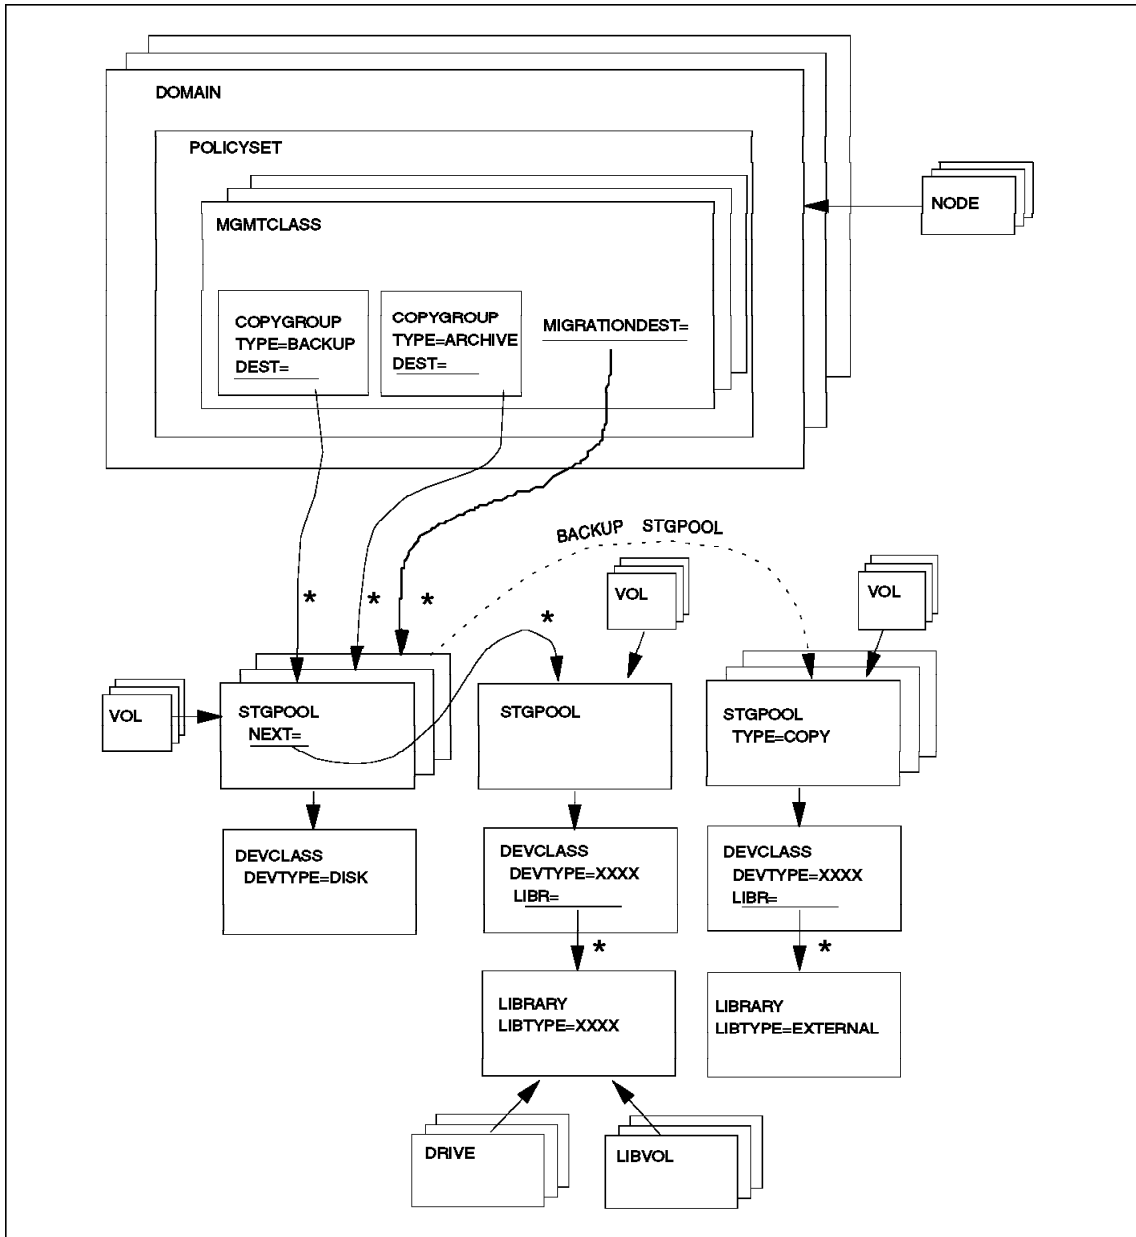

Figure 13. ADSM Server Structure
People are often confused about the relationships between the different ADSM elements that comprise the ADSM structure, in particular libraries and tape devices. Figure 13 on page 43 is an overview of the ADSM server structure that will help you visualize how the different ADSM elements fit together.
Some remarks on the conventions used in Figure 13 on page 43:
- The STGPOOL with TYPE=COPY is not linked to by other elements. The connection is done by the backup stgpool command. Otherwise, a copy storage pool is defined in the same way as a primary storage pool, by pointing to a device class that points to a library. The copy storage pool in Figure 13 on page 43 points to different DEVCLASS and LIBRARY elements than the primary storage pool; it could point to the same device class and library. We use our example to illustrate an External Library.
Figure 13 on page 43 shows LIBVOLs pointing to the library element. This is only true for an automated library; there are no LIBVOLs for manual libraries.
You are now ready to define the drives to the ADSM server. Drives are always defined in ADSM libraries, even if they are manual drives, and a library is pointed to by one or more storage pools. As shown in Figure 13 on page 43, the LIBRARY element is pointed to by all of the other elements, so you must define the library first. The sequence of steps (from an ADSM administrator session with system privileges) is: